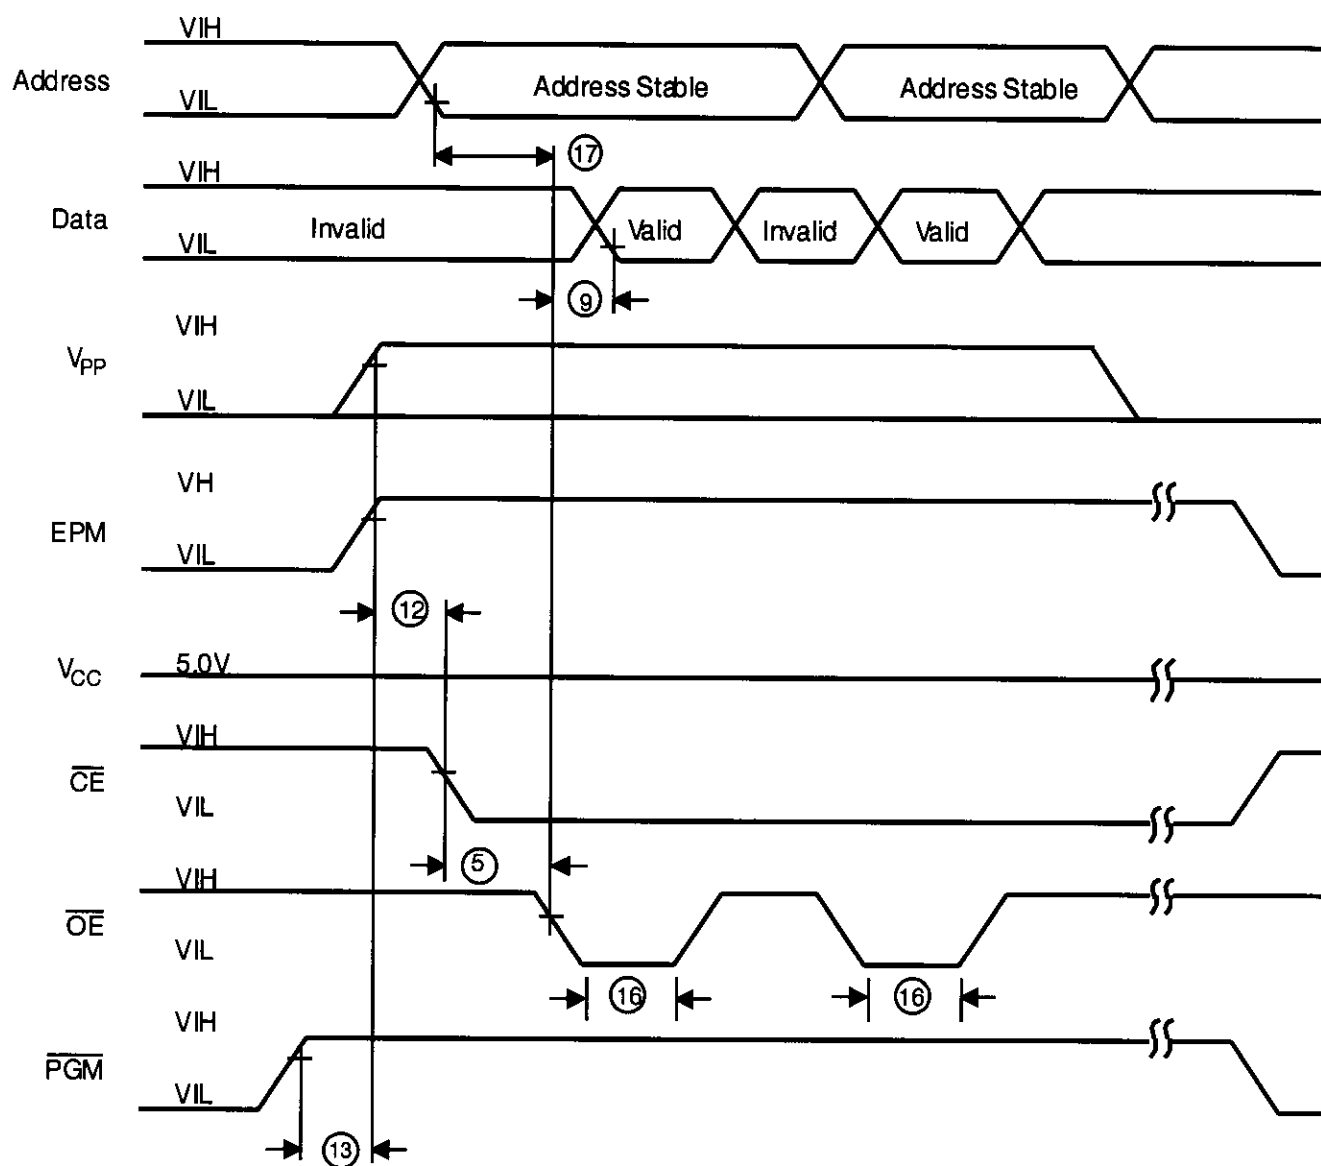

Figure 19. Z86E04/E08 Programming Waveform
**Programming Waveform.** Figures 19, 20, 21 and 22 show the programming waveforms of each mode. Table 8 shows the timing of programming waveforms.